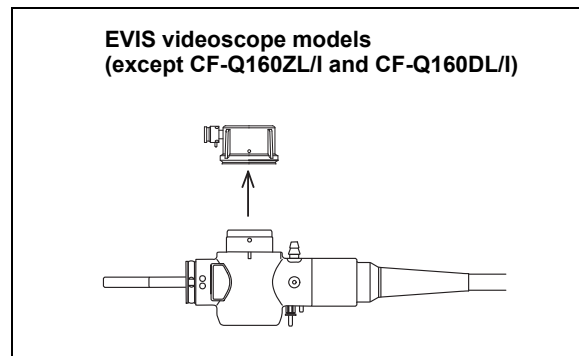

Figure 2.1
- When reprocessing EVIS videoscope models, remove the water-resistant cap before ETO gas sterilization (see Figures 2.1 and 2.2).